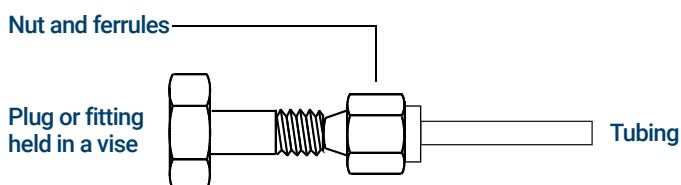

Figure 24. Assemble the fitting
- 3 Push the tubing into the stainless steel plug. See **Figure 24**.